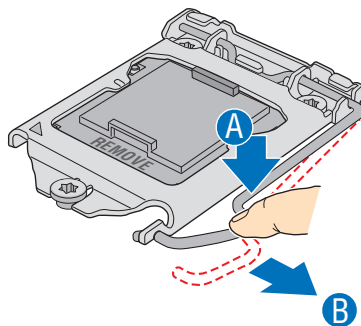

Figure 11. Opening the Processor Socket Lever
7. Push down the lever on the processor socket. While pushing downward, push it away from the socket to release it from the hook. Open the socket lever completely. See figure 11.